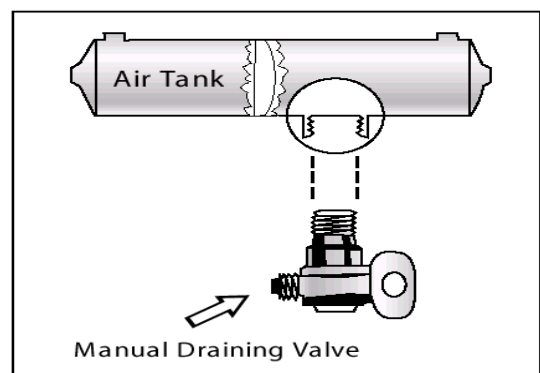

Figure 5.1
**Manually operated by turning a quarter turn or by pulling a cable. You must drain the tanks yourself at the end of each day of driving. See Figure 5.1.**